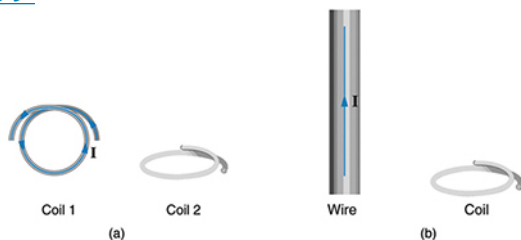

Figure 23.56 (a) The planes of the two coils are perpendicular. (b) The wire is perpendicular to the plane of the coil.
1. What is the value of the magnetic flux at coil 2 in Figure 23.56 due to coil 1?
2. What is the value of the magnetic flux through the coil in Figure 23.56\(b\) due to the wire?